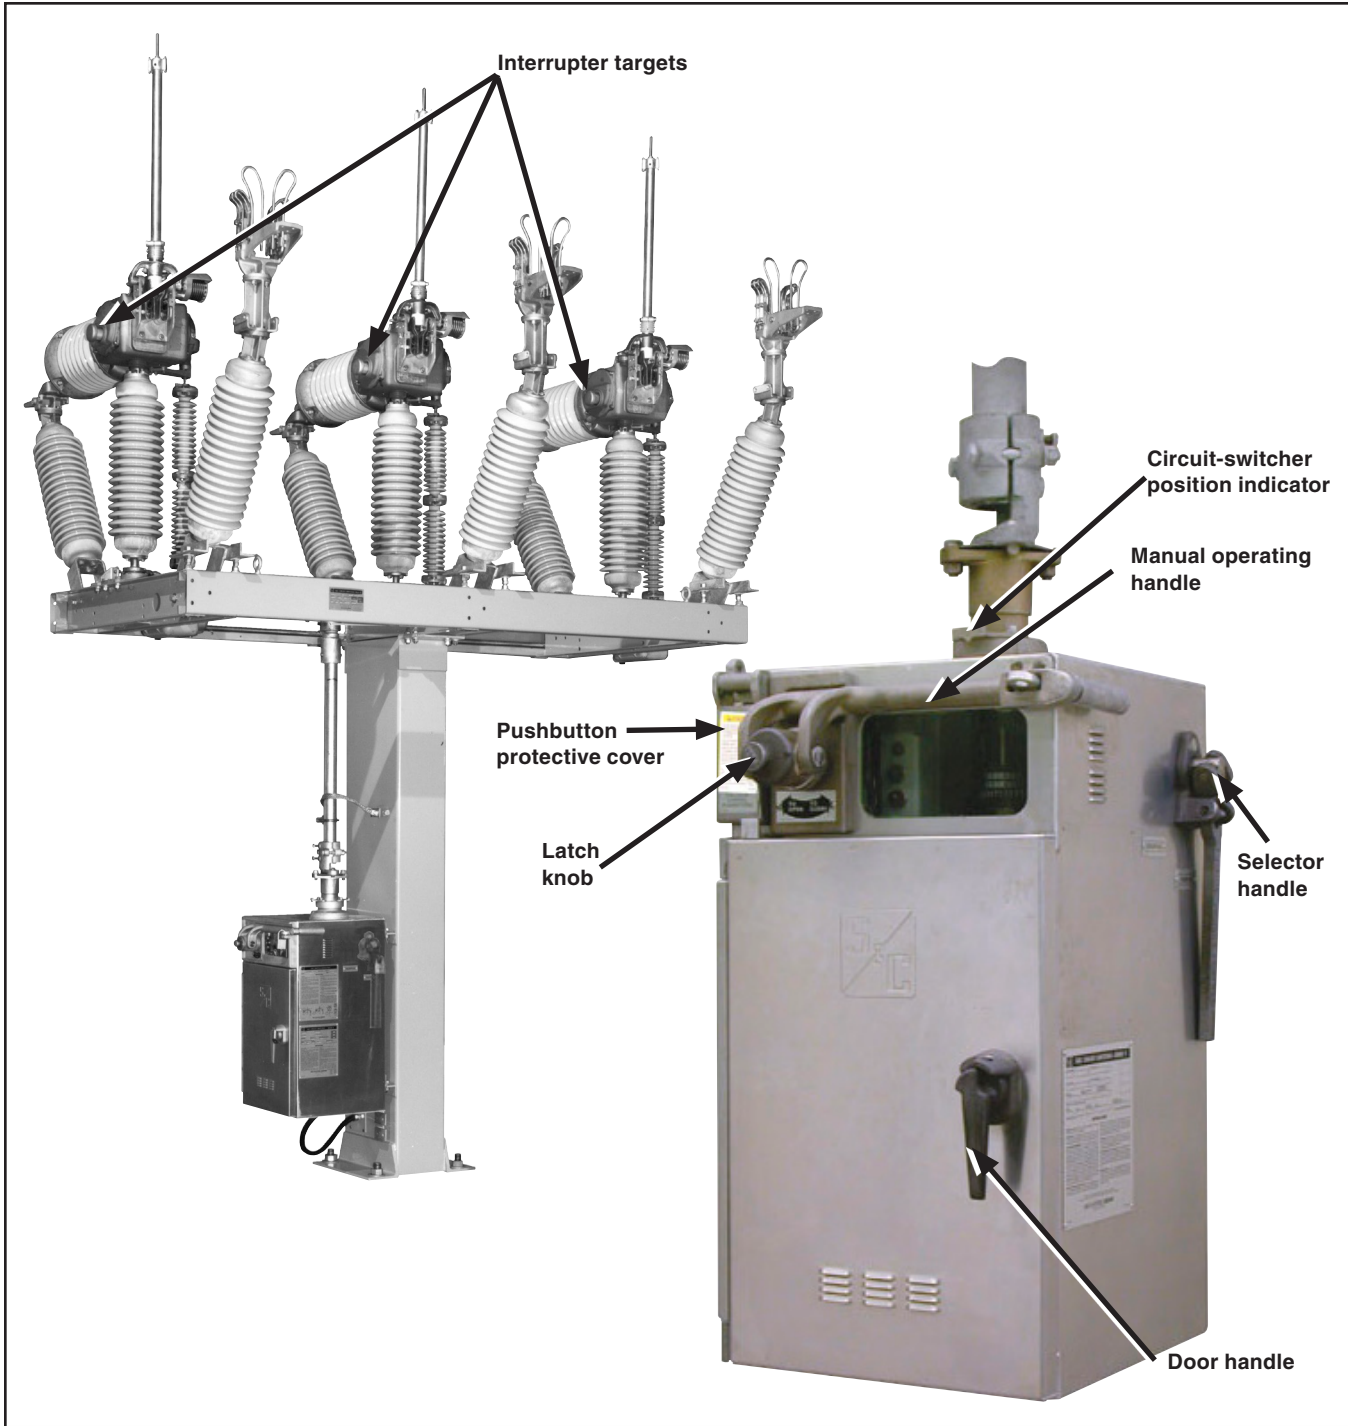
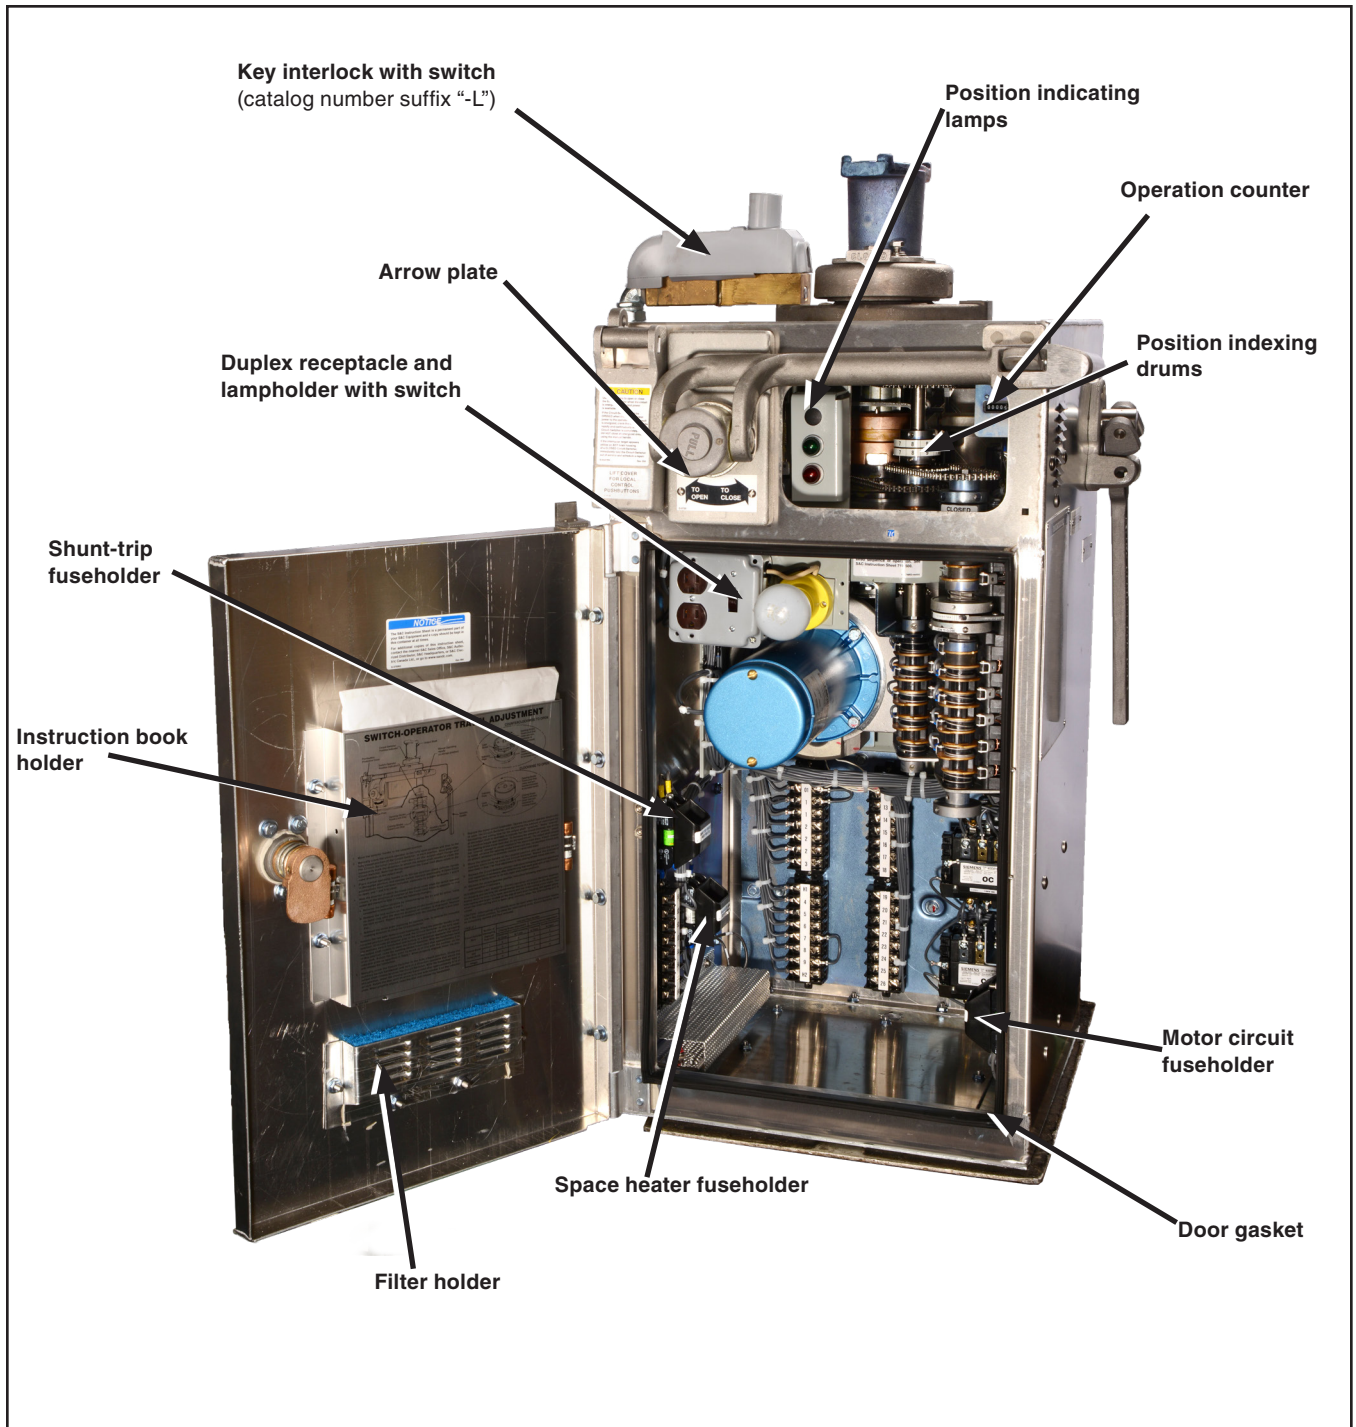
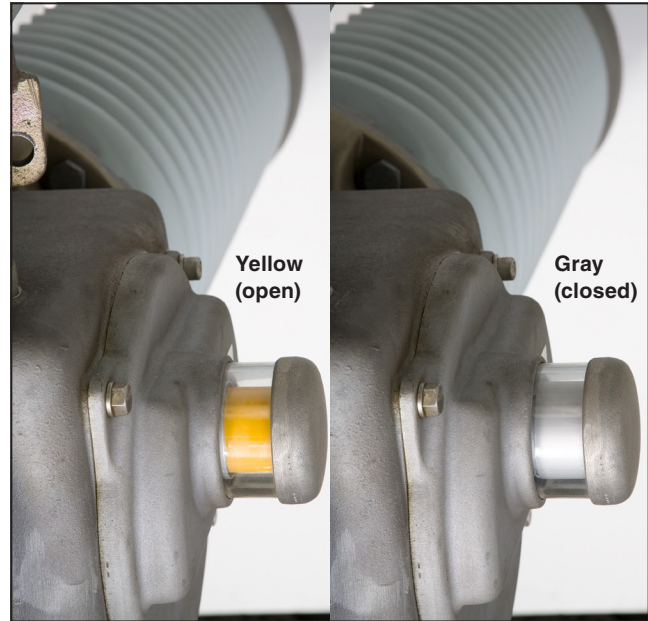
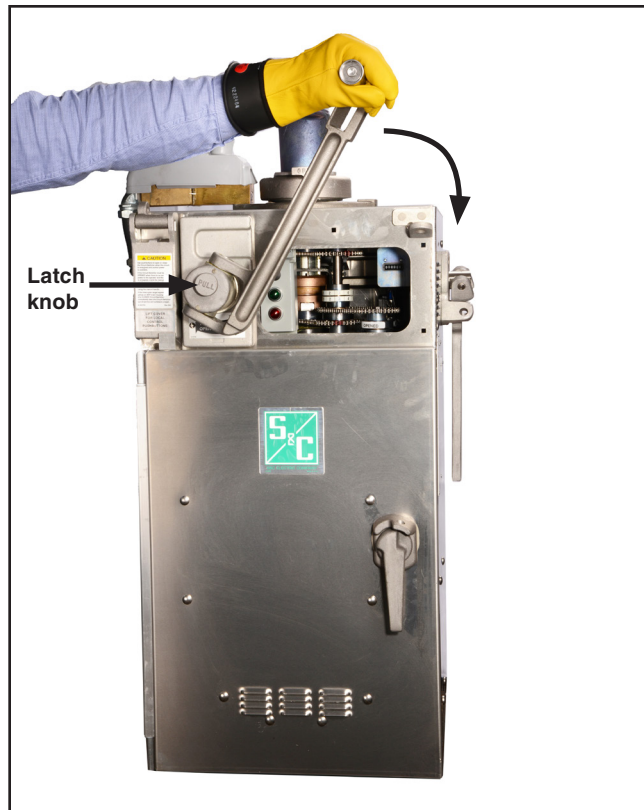

Figure 1. A 69-kV integer-style Mark V Circuit-Switcher connected to a Type CS-1A Switch Operator.
Figure 2. An interior view of a Type CS-1A Switch Operator with the door open.
Figure 3. The interrupter target.
Figure 5. Manual operation.
Before operating the Type CS-1A Switch Operator, become familiar with the parts of the switch operator and Mark V Circuit-Switcher, as shown in Figures 1 and 2 on pages 7 and 8.
The following operating instructions assume the switch-operator output shaft has been connected to the circuit-switcher power train, the electrical connections to the control source have been completed, and the switch operator has been correctly adjusted in accordance with S&C Instruction Sheet 719-500, “S&C Type CS-1A Switch Operators: *Installation*.” Figure 1 on page 7 illustrates a Type CS-1A Switch Operator connected to an integer-style Mark V Circuit-Switcher.
- The switch-operator position indicator displays “Open” or “Closed” to indicate the switch operator has moved through a complete operation. See Figure 1 on page 7. Also, if furnished, note the position-indicating lamps. See Figure 2 on page 8.
- The circuit-switcher position indicator, located on the switch-operator output shaft, is in agreement with the switch-operator position indicator. See Figure 1. Both indicators should show “Open” or “Closed.”
Because the interrupters are closed as the circuit-switcher blades move to the fully **Open** position, the target appears yellow only briefly during the **Opening** operation. The target should never appear yellow when the circuit-switcher is in the fully **Open** or fully **Closed** position. See Figure 1 on page 7 and Figure 3.
STEP 2. Release the latch knob while continuing to pivot the handle forward to lock it into the **Cranking** position. See Figure 1 on page 7 and Figure 5. (As the handle is pivoted forward, the motor brake is mechanically released. Both leads of the control source are automatically disconnected, and both the “opening” and “closing” motor contactors are mechanically blocked in the **Open** position. However, when the shunt-trip device option is provided, it remains operative unless the switch operator is in the **Open** position.)
If desired, during manual operation, the switch operator may also be disconnected from the control source by removing the motor-circuit two-pole pull-out fuseholder, located on the right-hand inside wall of the enclosure. See Figure 2 on page 8. Likewise, the shunt-trip device may be rendered inoperative by removing the shunt-trip circuit two-pole pull-out fuseholder, located on the left-hand inside wall of the enclosure.